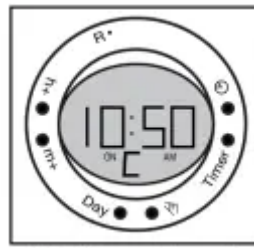

FIG 11 (Current time with countdown running)
2. Press clock button to change the display to time or countdown mode – countdown continues to run in either display [FIG 11].